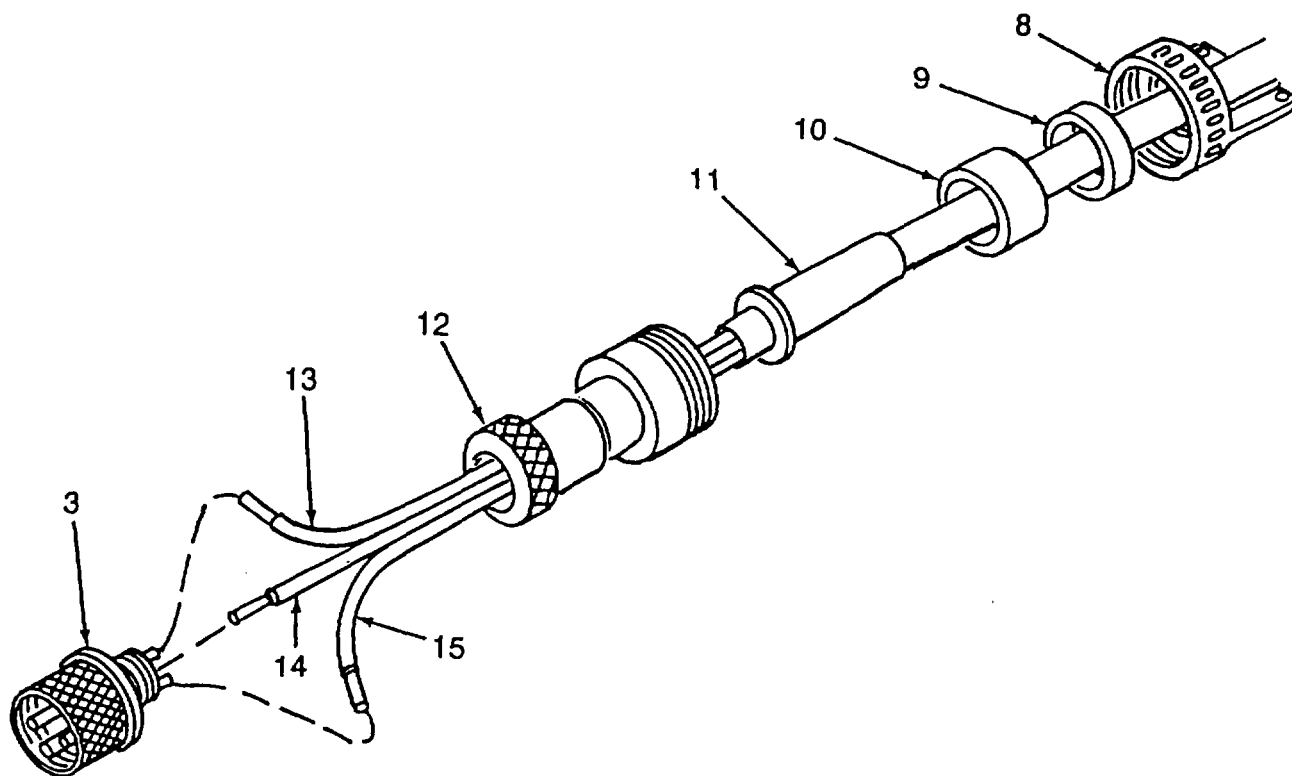

Figure 4-11. Remote Control Thermostat Repair (Sheet 2 of 3)
c. Repair - continued (Refer to Figure 4-11)